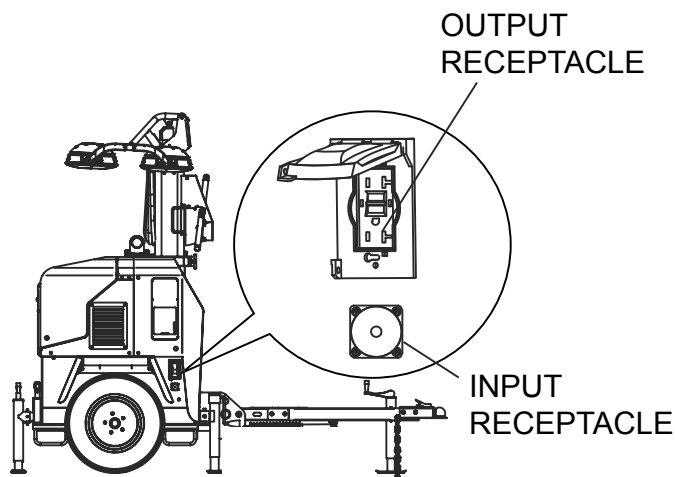

Figure 17. External/internal Load
1. External load can be connected to the output receptacle (Figure 17).
3. The light tower can also accept external power (load of 120 VAC @20 amp) by connecting to the input receptacle with an optional external power cable (Figure 17).